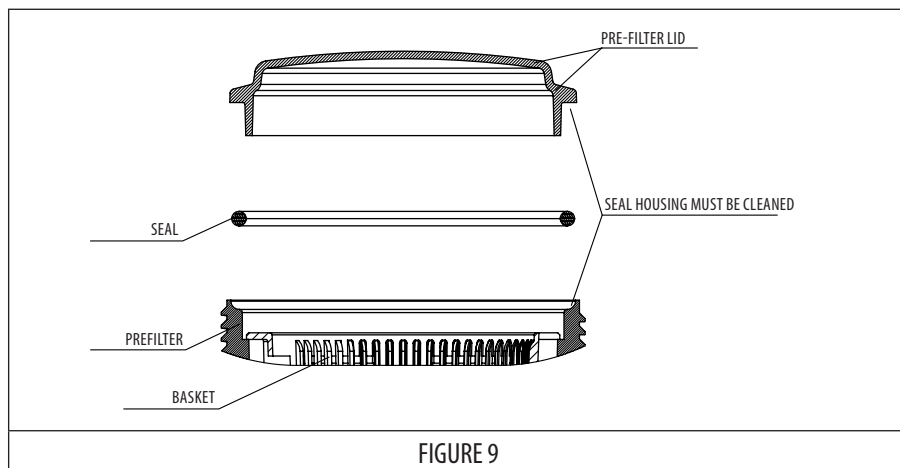

FIGURE 9
- Every time the prefilter is opened, clean off any dirt on the seal and its housing to ensure the cover is watertight when closed (FIGURE 9).